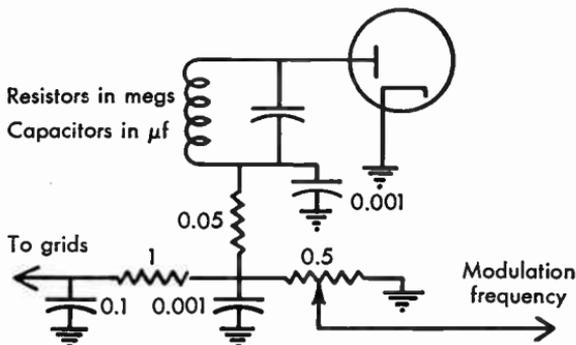

Fig. 8.16 Automatic volume control.
8.16 In the automatic volume control circuit of Figure 8.16 what is the approximate time constant during the charge period and during the discharge period?